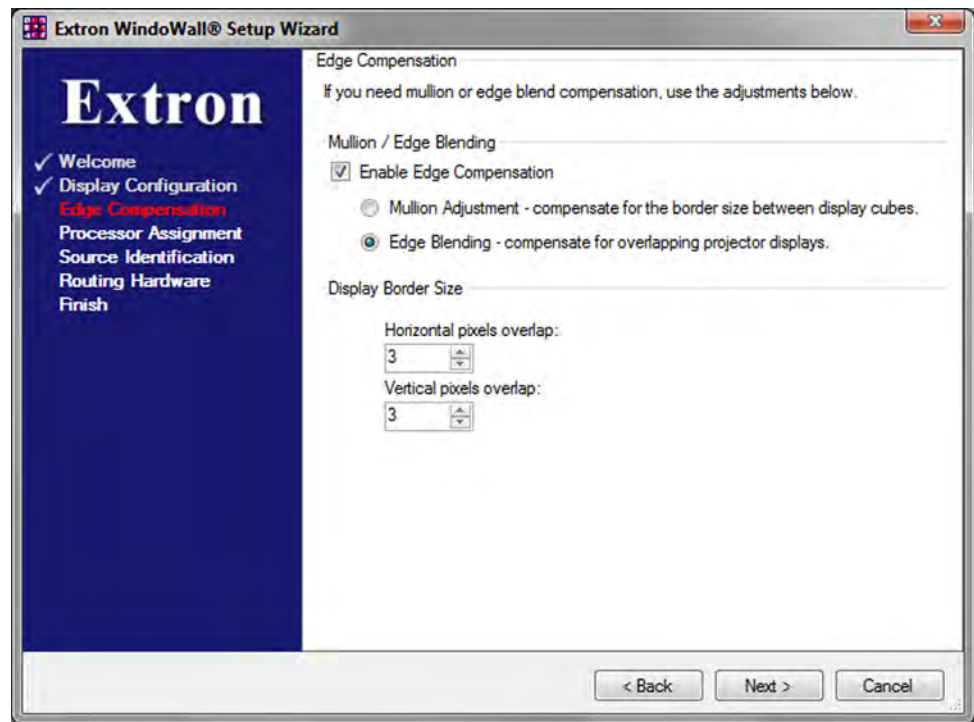

Figure 16. Edge Blending — Setup Wizard
- **Edge Blending radio button** — Select this button if you are using projectors to display multiple images on one screen, and you need to compensate for overlapping edges. The Edge Compensation screen changes as shown in figure 16 on the next page.